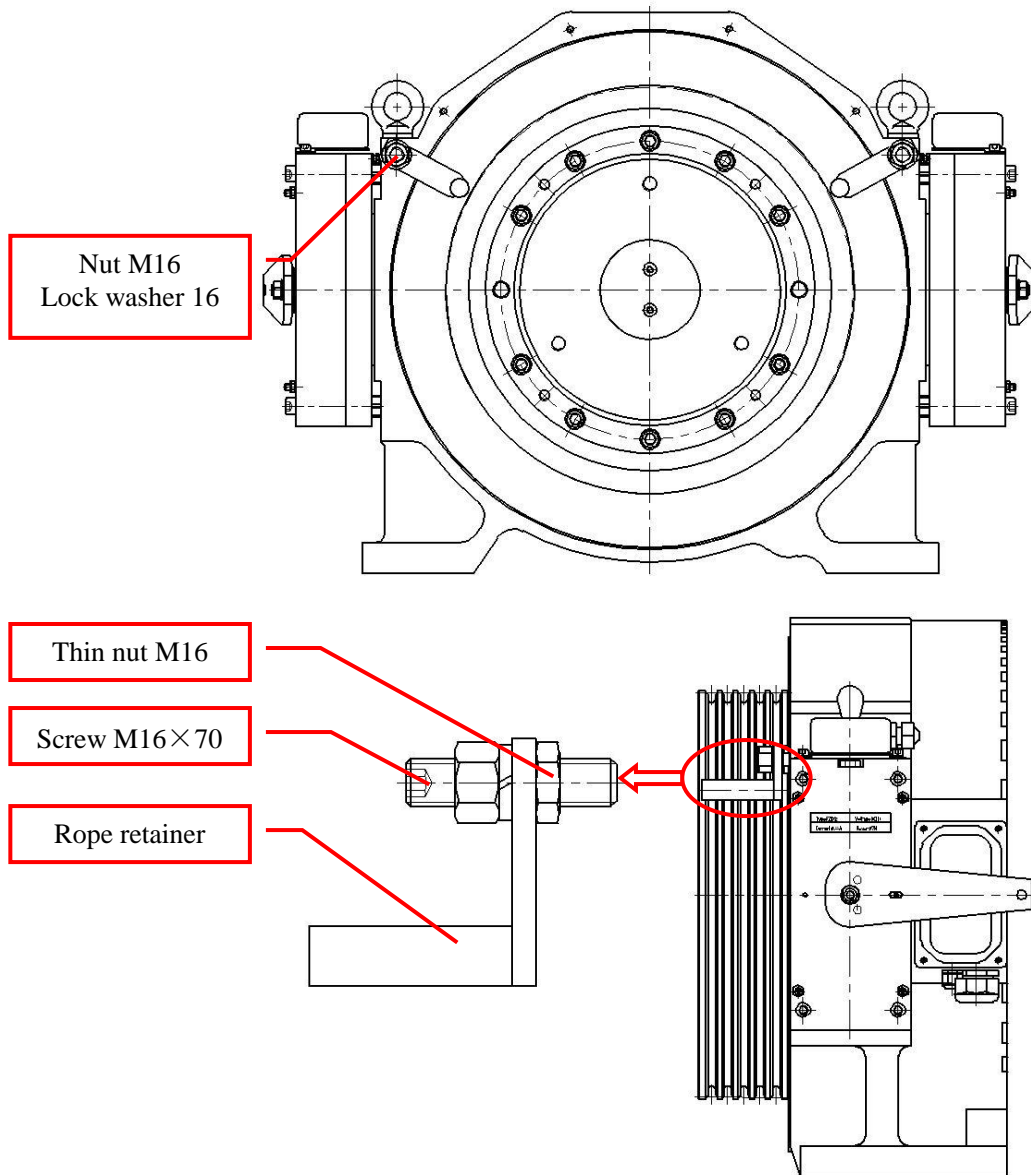

Figure 34: Remove Rope Retainer
2. Remove rope retainer by removing the nuts M16 and lock washers 16 with open-ended wrench (24mm). Loosen the thin nuts M16, and then remove the screws M16×70 with inner hexagon spanner (8mm). See Figure 34.